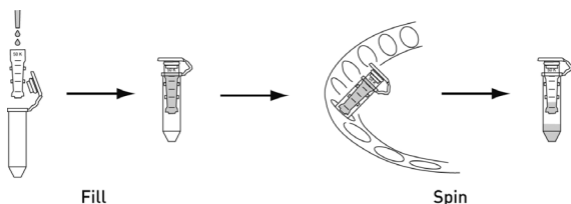

Figure 2. Antibody concentration step.
- A.1 Add 500 µl of ddH₂O to the antibody concentrator (0.5 ml, 50K) and cap the device as shown in Figure 2.
- A.2 Centrifuge at 5000 × g for 6 min. **Make sure that the cap strap and one membrane panel of the concentrator face the center of the rotor** (Fig. 2).
- A.5 Centrifuge at 5000 × g for 2-6 min. **Make sure that the cap strap and one membrane panel of the concentrator face the center of the rotor** (Fig. 2).
- A.6 Invert the antibody concentrator into a new collection tube as shown in Figure 2.